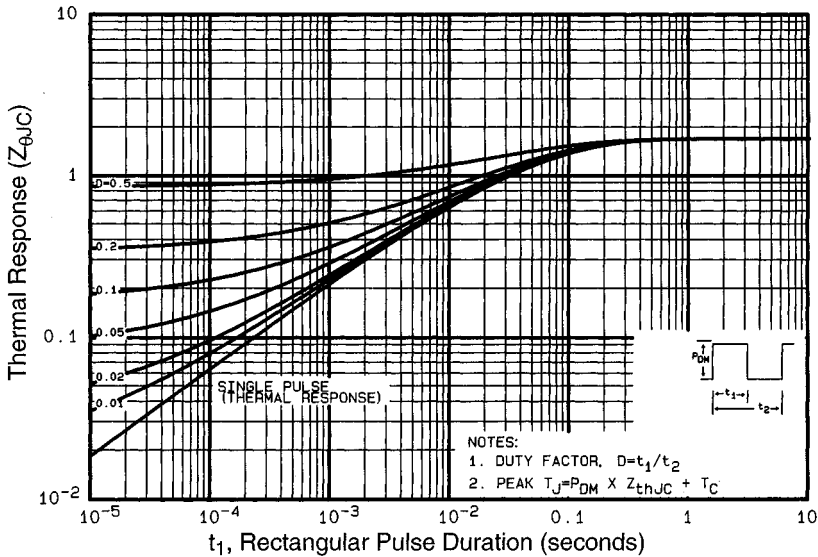

Fig 11. Maximum Effective Transient Thermal Impedance, Junction-to-Case
- ① Repetitive rating; pulse width limited by max. junction temperature. (See fig. 11)
- ② $V_{DD} = -25V$, starting $T_J = 25^\circ\text{C}$, $L = 1.3\text{mH}$